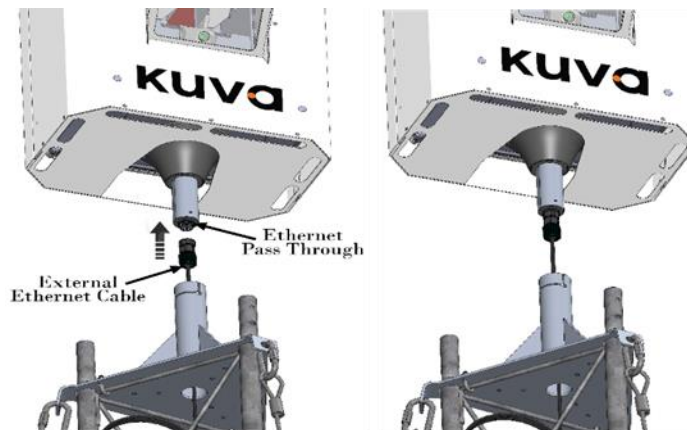

Figure 105 Ethernet connection to camera
4. Disconnect the Ethernet cable from the GCI360 Ethernet port at the base of the camera post turning counter clockwise , via the RJ45 connection as per Figure 105.
5. Disconnect the Ethernet cable from the CGI360 Ethernet port at the base of the camera post turning counter clockwise , via the RJ45 connection as per Figure 105.